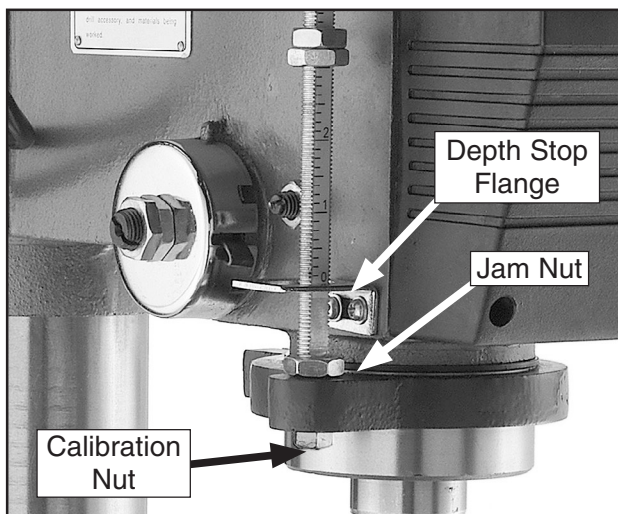

Figure 41. Depth stop assembly.
1. Loosen the jam nut and calibration nut shown in **Figure 41**.